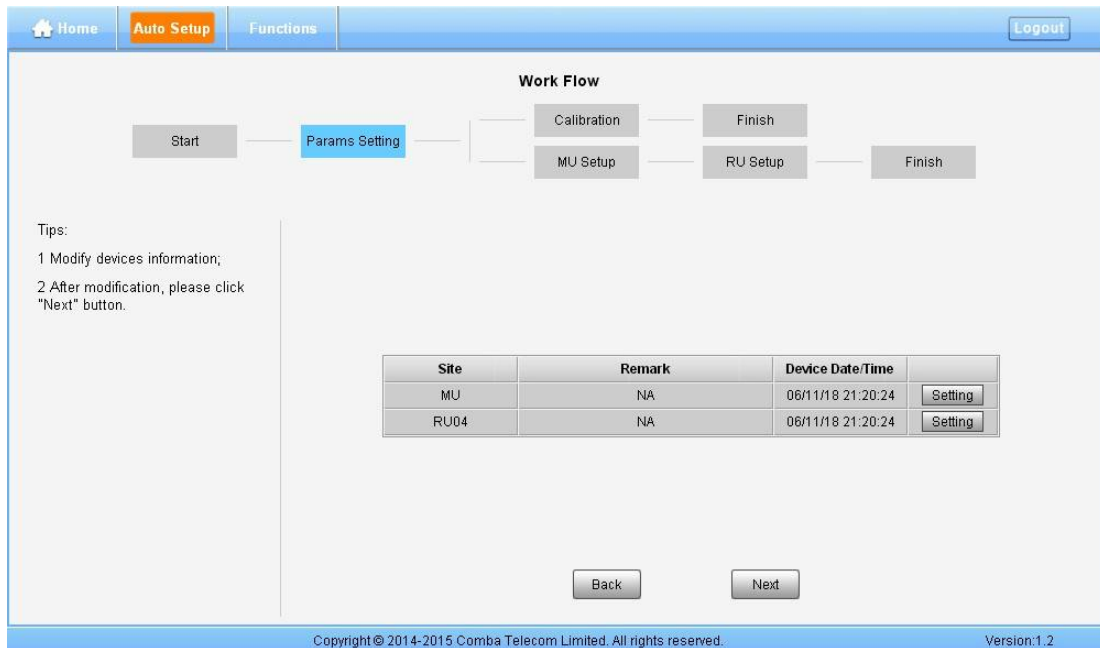

Figure 67: Commissioning Procedure - Params Setting
Step 9: Back to [Home] page, set all 2500 TDD channel Working Mode to “Normal”, and set the right TD-LTE “DL/UL Slot Configuration” and “Special Subframe Configuration”, as in Figure 67.